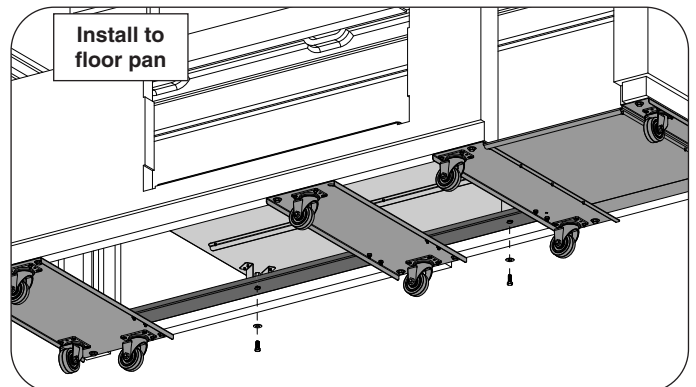

Fig. 7-4 Install floor pan, and fasten to wheel support channels
8. Place the floor pan as instructed in the island owner's manual, then fasten the support channels to the floor pan as shown in Fig. 7-4.